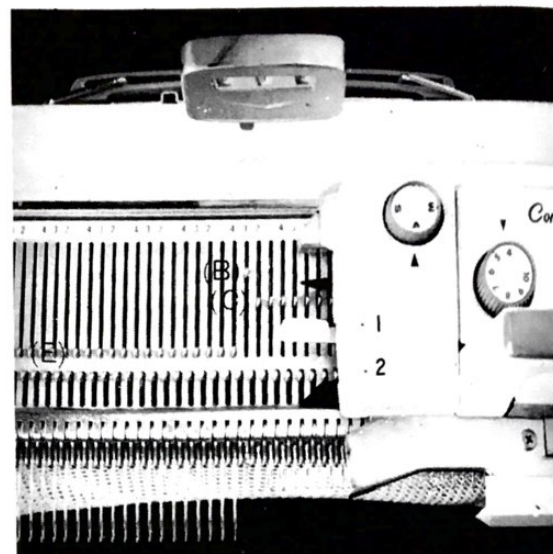

Fig. 17
**Position 1** With the lever in this setting, needles in Position (E) **will not knit** regardless of the position of the Pattern Control Knob, but needles in Position (D) **will knit** also regardless of the position of the Pattern Control Knob. Therefore, this setting is used for 'turning', 'part knitting' etc. (Fig. 17)
**Position 2** With the lever in this setting, needles in Position (E) will also knit, and therefore, with the Pattern Control Knob in Position M, needles in any of the Positions (B), (C), (D) or (E) will knit.